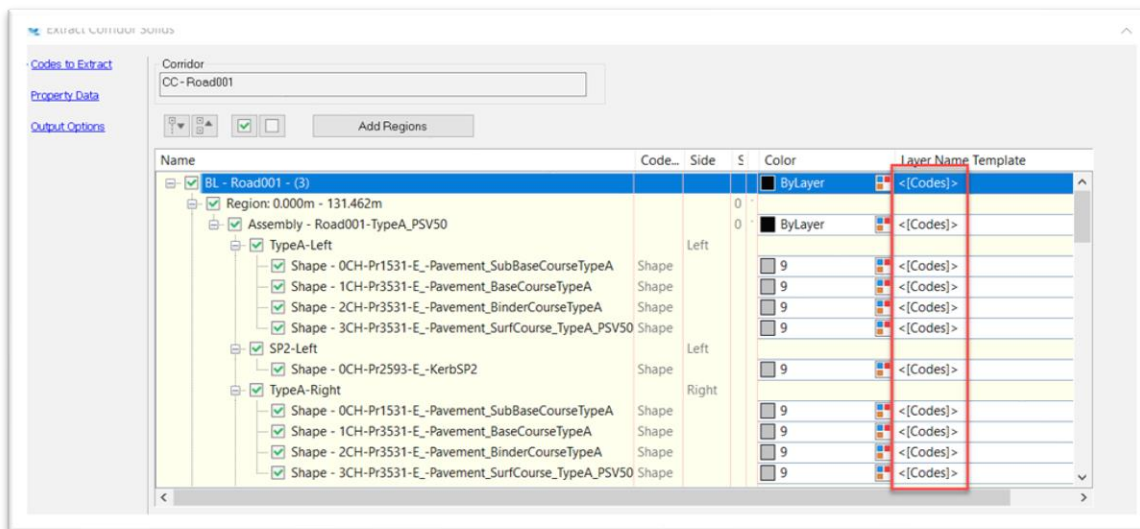

Figure 24 - Solids Extraction Layer Template based on "Codes"
1. When extracting corridor solids in Civil3D no additional input is needed to determine the layer for each solid. The default can be set to "Codes" (See Figure 24) and then the layer names will always be correct as they are built in to this shape code.